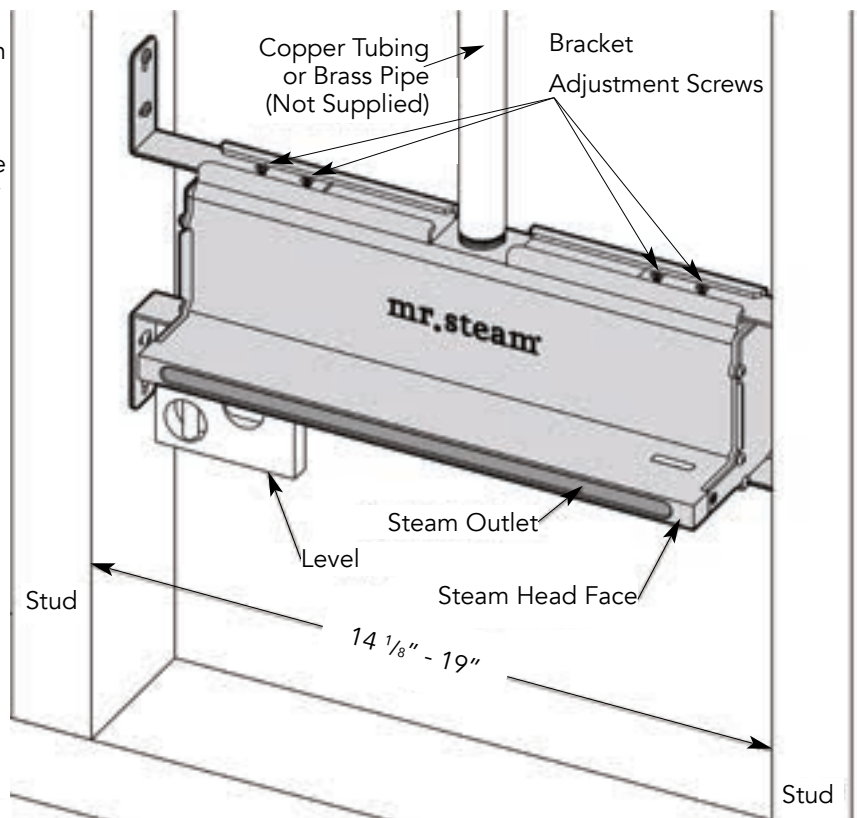

Figure 3
Only install the linear steam head in a horizontal orientation as shown in fig 3. Failure to follow these instructions may result in a leak within the wall cavity and cause problems associated with leaks, moisture and property damage from leaks. Failure to follow these instructions may result in a hazardous condition, scalding or personal injury.
STEP 3. Position the steam head between 2 properly spaced studs. Extend the adjustable brackets as required so the steam head fits snugly between two studs. Use a level to ensure the steam head is level (see Fig. 3). Tighten the eight bracket adjustment screws (supplied).